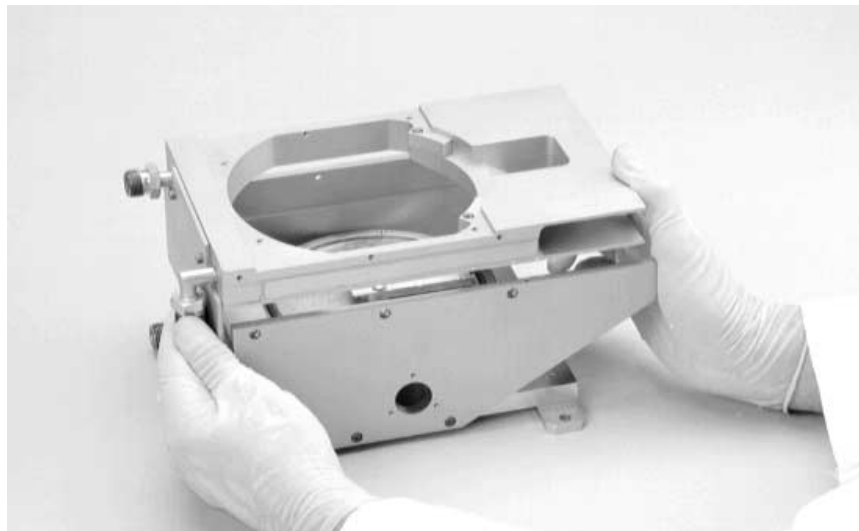

Figure 6-9. Removing the coil housing
Step 13: You should now be able to lift the coil housing free of the pole pieces, as shown in Figure 6-9. If not, further loosen the bottom row of screws that secure one of the pole pieces to the source base plate.